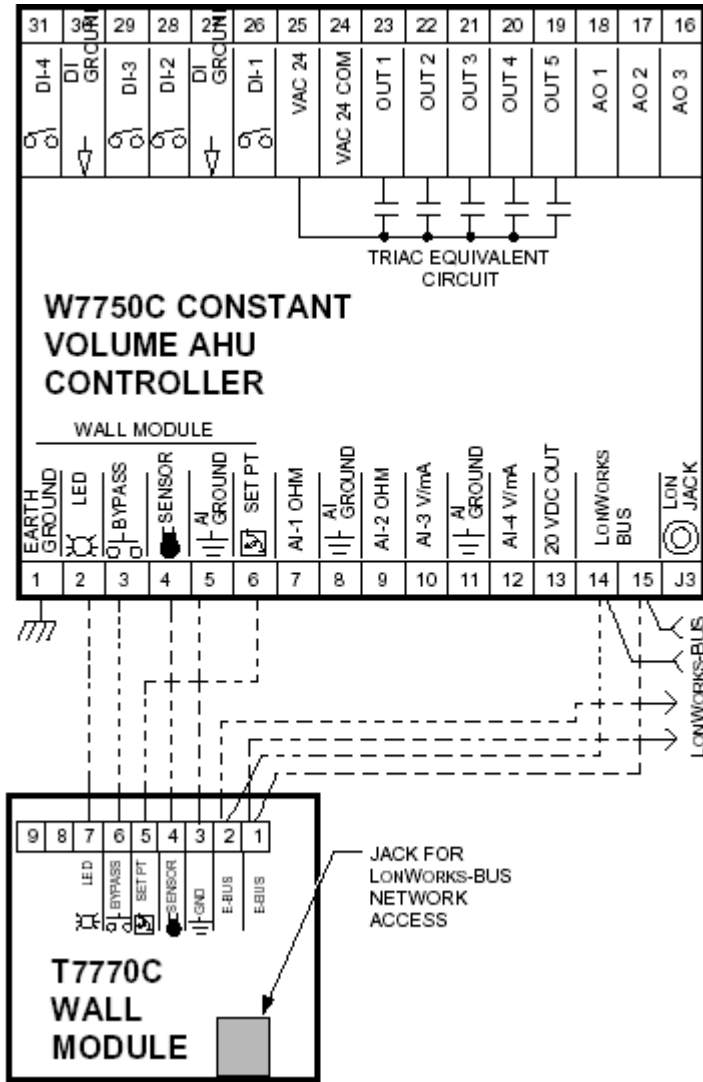

FIGURE 1 - BUILDING AUTOMATION SYSTEM CONNECTIONS
1. **Stand-Alone Operation** - All units are equipped with a return air sensor, and are ready for stand-alone operation. A zone temperature sensor may be installed in place of the return air sensor, (see Figure 1) but is not included.
2. **Building Automation System Operation** - For networking with a BAS system, with or without a zone temperature sensor, the LONWORKS bus noted in Figure 1 must be connected.